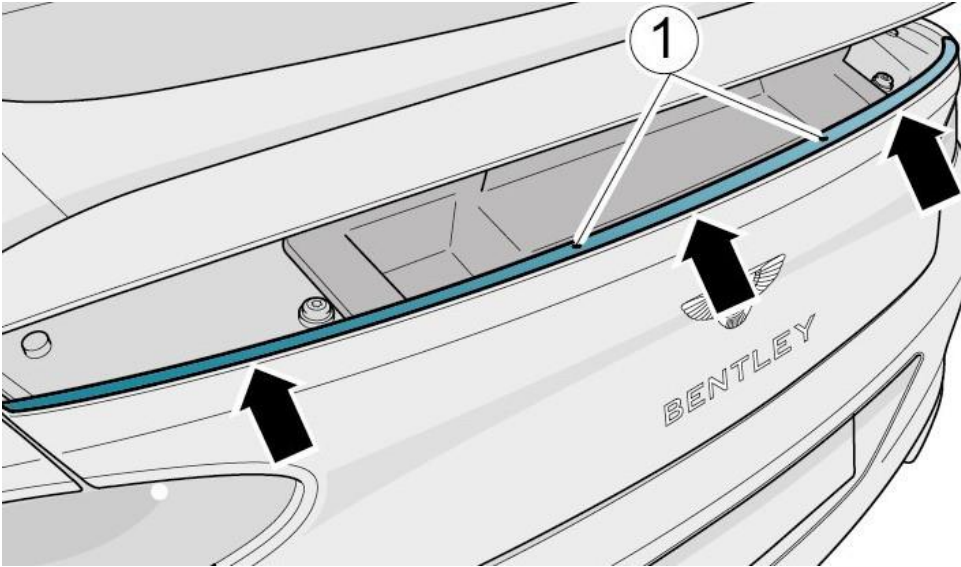

Figure 1
- Teroson MS 939 adhesive (Black) MUST be applied in the exact locations detailed within Rep.Gr 66 in particular surrounding the holes circumference (Figure 1)